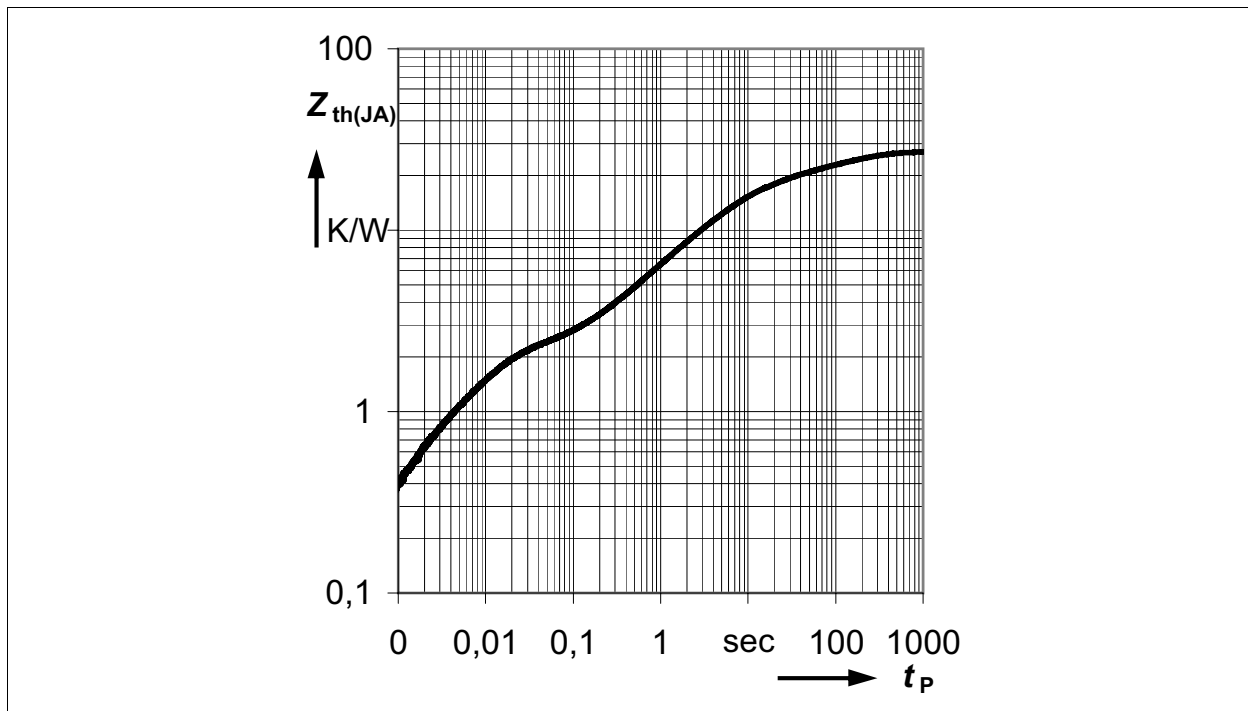

Figure 4 Transient Thermal Impedance $Z_{th(JA)}=f(t_p)$ ⁴⁾
- 4) Specified R_{thja} value and **Figure 4** are according Jecdec JESD51_7 at natural convection on FR4 2s2p board. The BTS50080-1EGA was measured on a 76.2 x 114.3 x 1.6 mm board with 2 inner copper layers (2 x 70 μ m Cu, 2 x 35 μ m Cu) applying power losses of 1.4W at the channel. According to JESD51-5 a thermal via array under the exposed pad contacted the first inner copper layer. $T_a = 25\text{ °C}$.
Figure 4 shows the typical transient thermal impedance of BTS50080-1EGA.